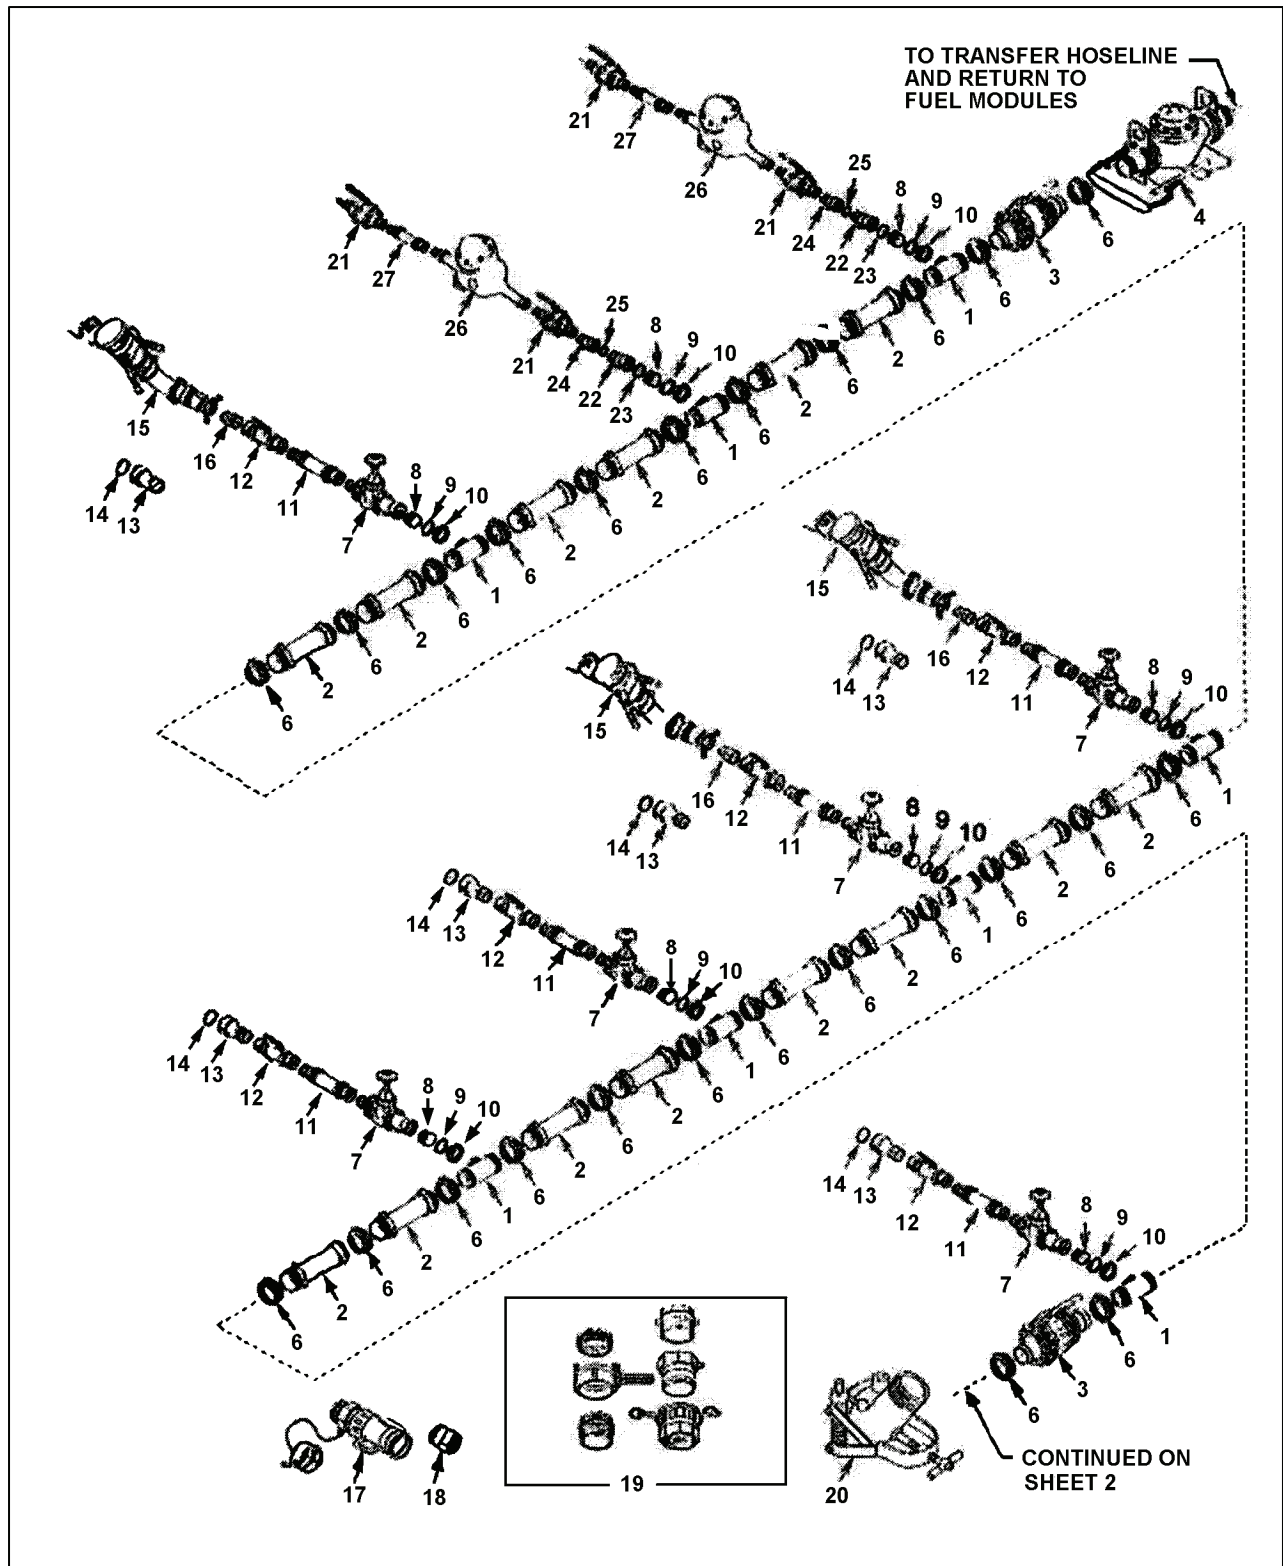

Figure 2
9. Set up fuel dispensing assembly (Figure 2).
- c. Align mating surfaces of 6 x 6 x 4 Tees (1) (Figure 2), 6-inch x 50-foot hose assemblies (2), 6-inch ball valves (3), 6-inch pressure control valve (4), and 6-inch cap (5). Join these items using coupling clamps (6).
- (1) Connect 4-inch gate valves (7), to tees (1) using couplings (8), gaskets (9), and coupling clamps (10).
- (2) Connect 4-inch x 25-foot cam lock hoses (11) to gate valves (7).
- (3) Connect 4-inch cam lock butterfly valve (12) to hose (11).
- e. Determine dispensing device combination from the following and connect them to butterfly valves (12)